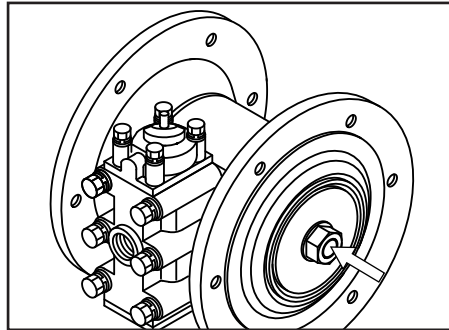

Figure 18
- Remove the nuts on both sides of the center rod (See Figure 18).